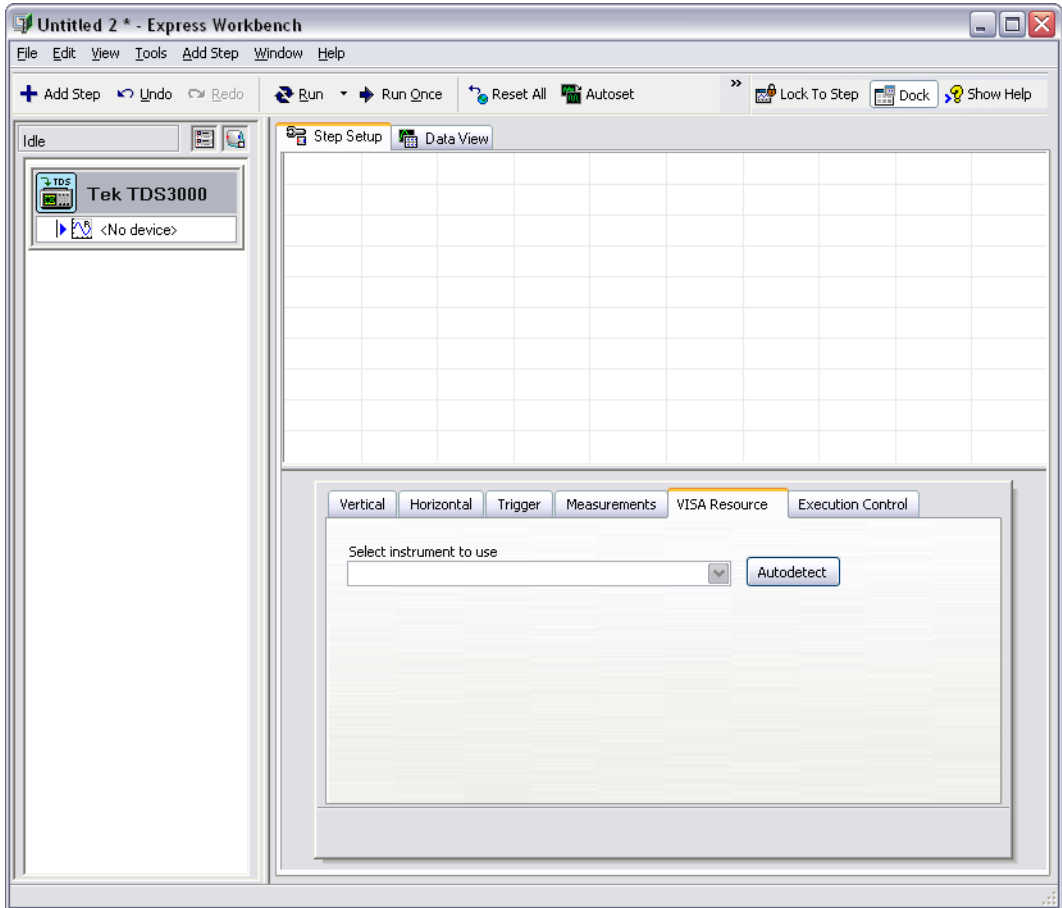

Figure 3-9. Autodetect Tektronix TDS3000 Series Oscilloscopes Ethernet Connection
2. Click the **Add Step** button, shown at left, and select **Tektronix» Acquire Signals»Tek TDS3000**. The Tektronix TDS3000 series oscilloscope **Step Setup** dialog box launches, as shown in Figure 3-9.